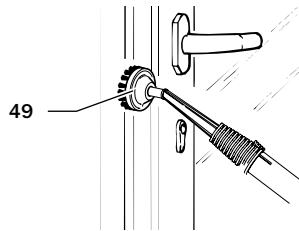

Fig. 17
*Door jambs, frames, blinds, shutters, Venetian blinds.* For these surfaces, in addition to the accessories above, the large brush 49 (2.5") (fig. 17) is recommended.